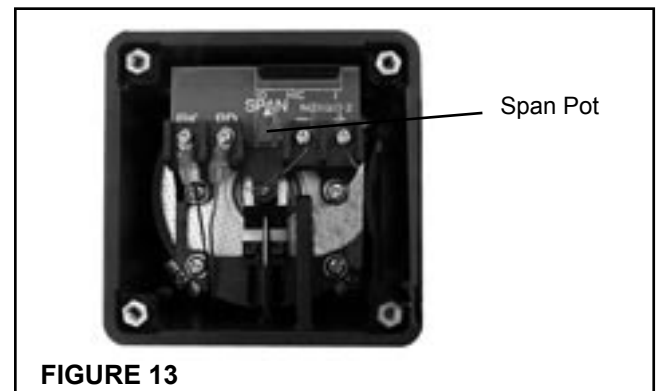

FIGURE 13
4. Using a screwdriver, adjust Span Pot to obtain Pmax output (See Figure 13).